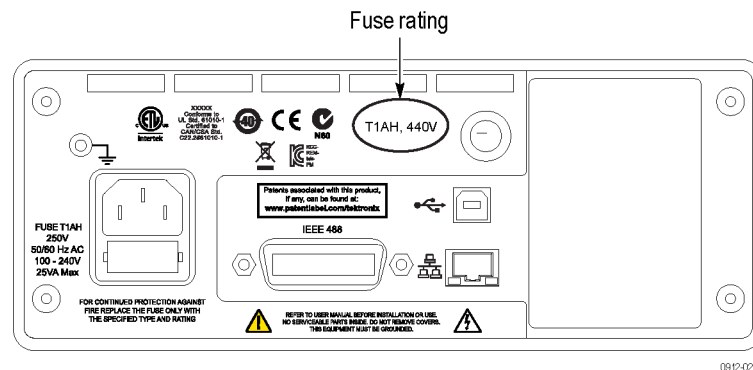

Figure 32: Input fuse rating
**WARNING.** These instructions apply to PA1000 Power Analyzers marked **T1AH**, 440V on the rear panel only. (See Figure 32.) If your PA1000 is marked **F1AH**, 600V, use only a F1AH, 600 V fuse. (For example, Schurter part number A12FA 600V.)